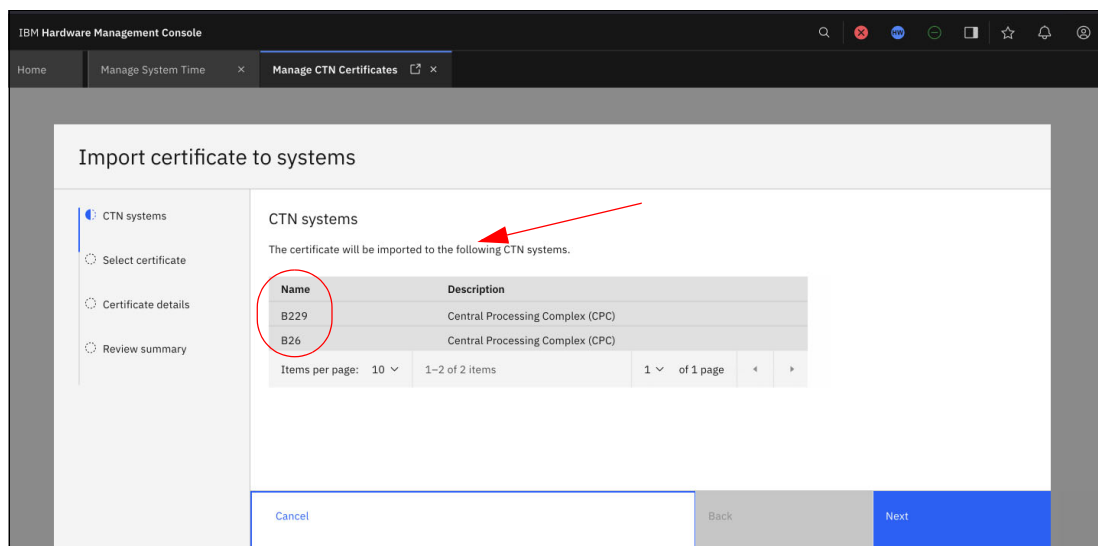

Figure 4-70 Servers that will receive the certificates
3. Verify the systems and click **NEXT** to proceed to system selection, as shown in Figure 4-70.